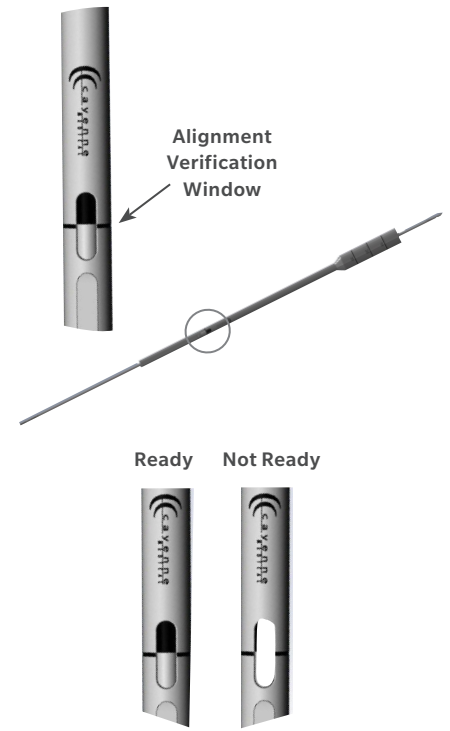

Figure 10
**External Alignment Verification:** Ensure the Coring Reamer is correctly seated over the Drill Stop (Figure 10).